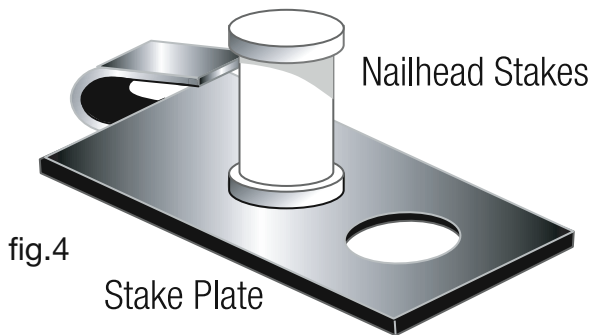

fig.4
See fig.4
7. Additional stakes will be necessary in soft soil conditions or whenever stakes pull up from the ground. We recommend that you drive double nailhead stakes through both holes in the plate. Drive the stakes until flush with the top of the plate. Remove the plastic stake. See fig.4